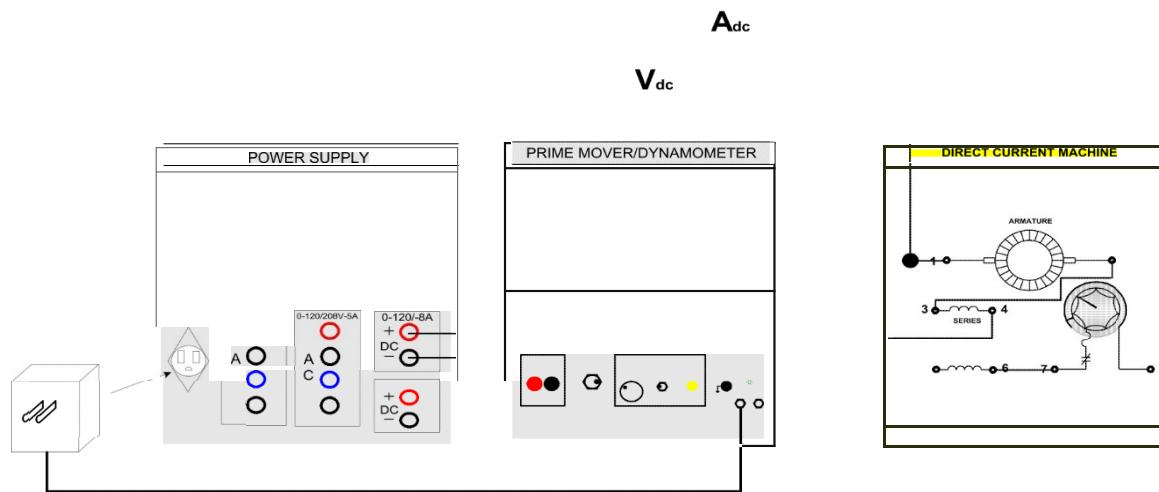

FIGURE 11.12
Step 1: Using your EMS Power Supply, DC Motor/ Generator, the Data Acquisition Interface (DAI) modules in the EMS workstation and Electrodynamometer Modules, connect the circuit shown in Figure 11.12.